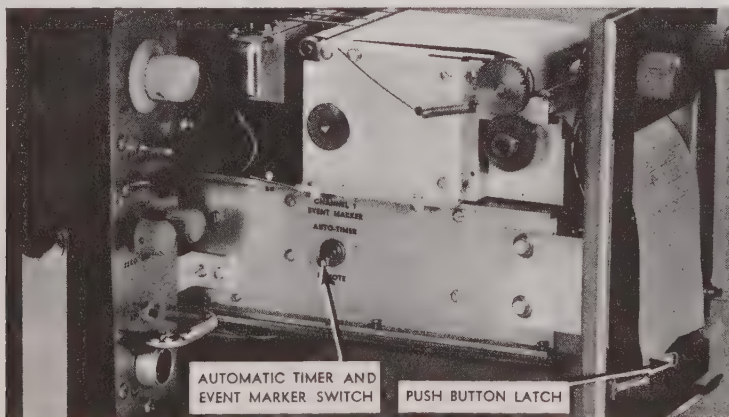

Fig. 2-2 "Meterite", Pull-out Recorder Section
The Model BSA-260B is constructed in modular form and includes a pair of complete (and isolated) recording channels, mounted on an easily serviced, pull-out drawer, as shown in Figure 2-2. The outer enclosure provides two chambers for the insertion of any BLH plug-in preamplifier. These chambers are located on either side of the central drawer.
2.3.2 Interior. (See Figure 2-2 and 2-3)
2.4.3 Automatic Timer, Event Marker and Remote Control. (See Figure 2-2.)
A switch selected automatic timing marker produces "pips" once per second between the channels at all chart speeds. The same stylus may be used for remote event marking. A switch on the left frame of the pull out drawer (See Figure 2-2) selects the operational mode of this central stylus.